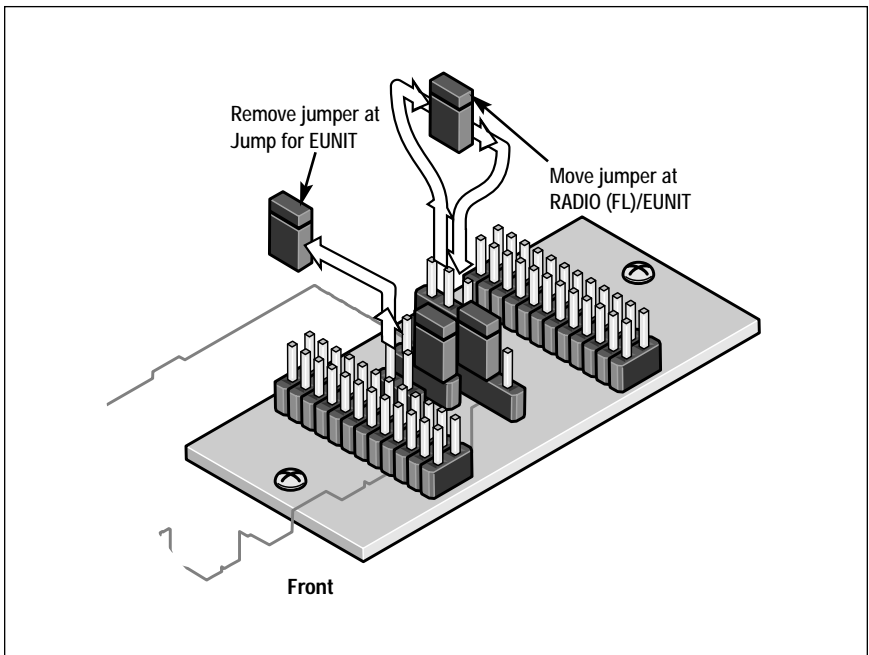

Figure 5. JUMP FOR EUNIT jumper position
2. Locate and remove the jumper marked JUMP FOR EUNIT on the motherboard. This position is to remain open. Refer to Figure 5.
3. As illustrated in Figure 5, move the jumper marked RADIO(FL)/EUNIT to the next position, leaving the opposite pin open.